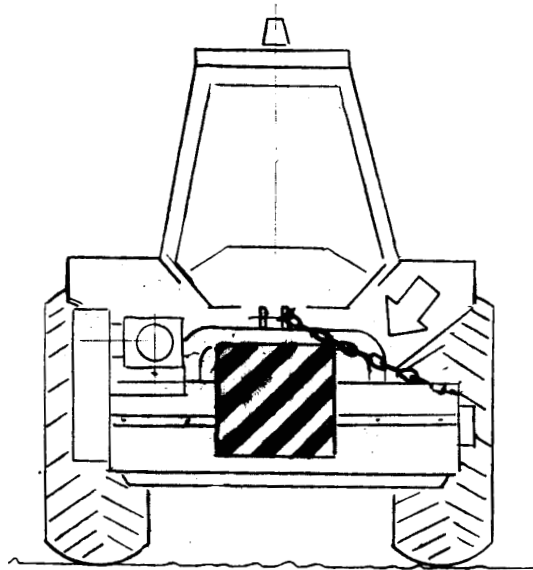

FIG. 25
- Observe all road transport requirements and fit the necessary warning signs (FIG. 25).